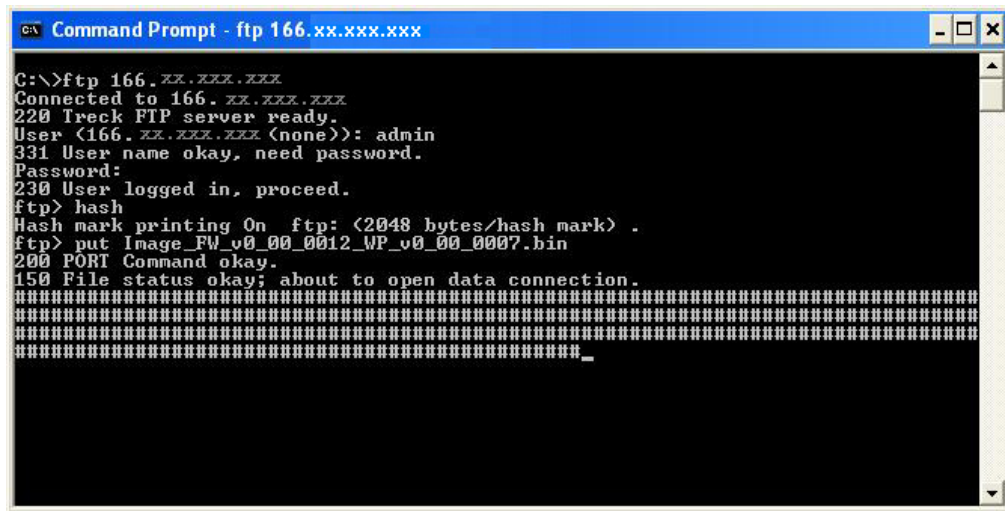

Figure 102. Launching the Upgrade
3. Open an MS-DOS command line window and connect to the communications module in FTP mode (see Figure 102):
4. At the **ftp>** command line, use the **put** command with the **Image<xxx>.bin** file to launch the upgrade (see Figure 102).